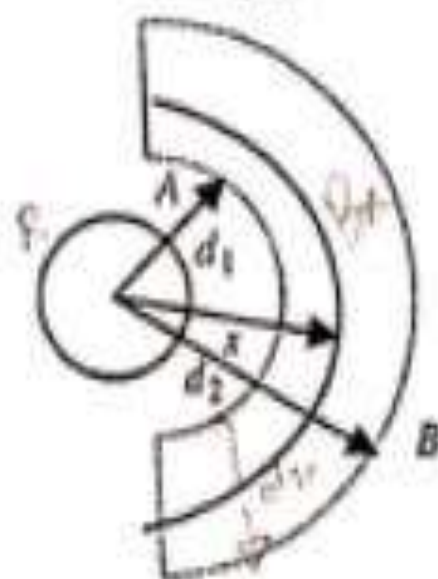

Figure 9.4 Flux linkage between two points.
**Inductance due to external flux linkages.** Let us calculate the flux linkage between two points A and B at distances  $d_1$  and  $d_2$  respectively from the centre of the conductor. The flux density ( $B_x$ ) at distance  $x$  from the centre of the conductor, as shown in Figure 9.4, can be expressed using Equation (9.10) as